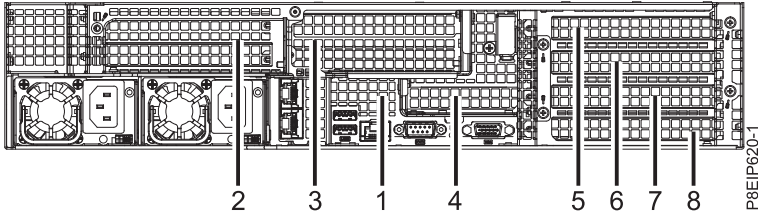

Figure 11. 8001-22C PCIe adapter positions
2. A GPU adapter can share a PCIe riser card with other adapters. Systems with one processor can have a GPU in position 3. Systems with two processors can have GPUs in positions 3 and 5. Position 3 is preferred for optimal cooling. Label and remove any cables and plugs that extend out of the adapters. See Figure 11 on page 18.